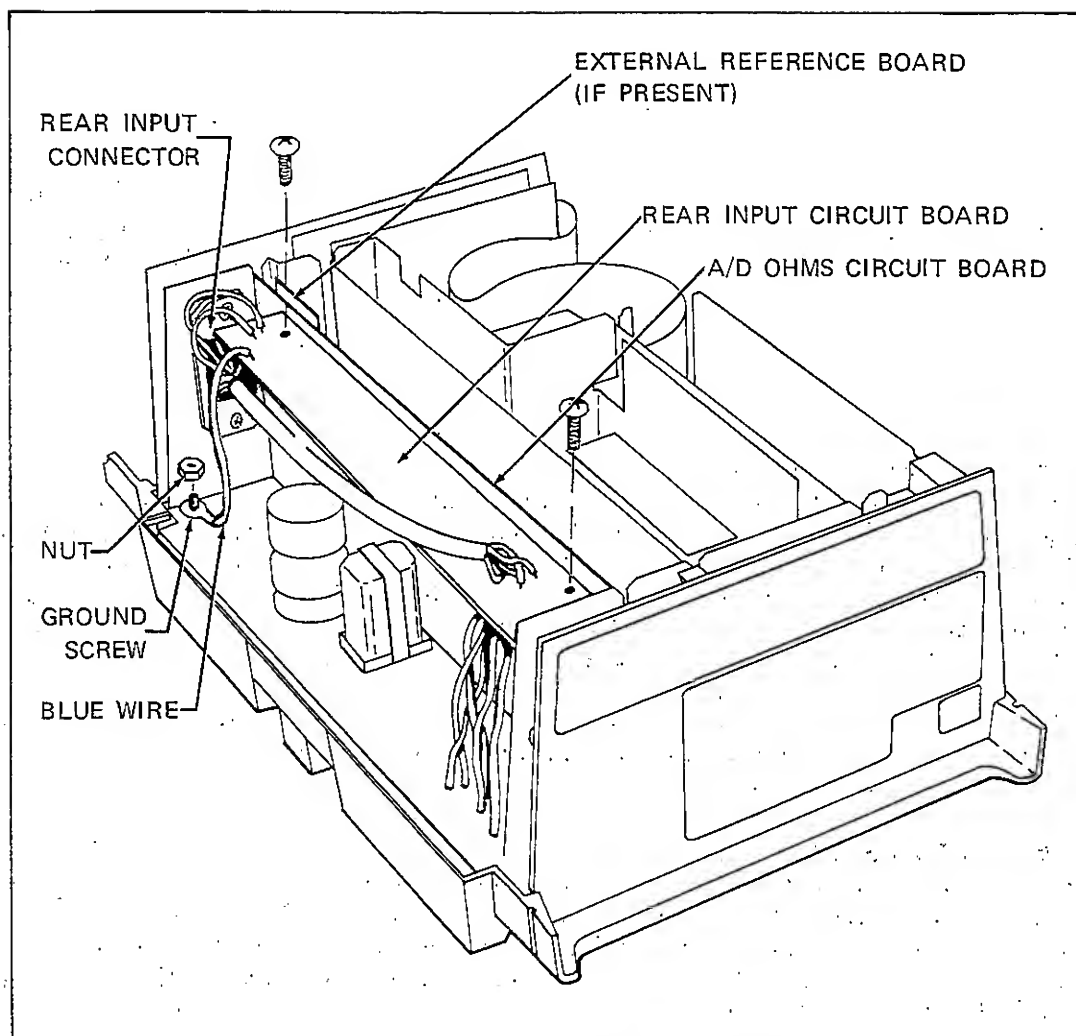
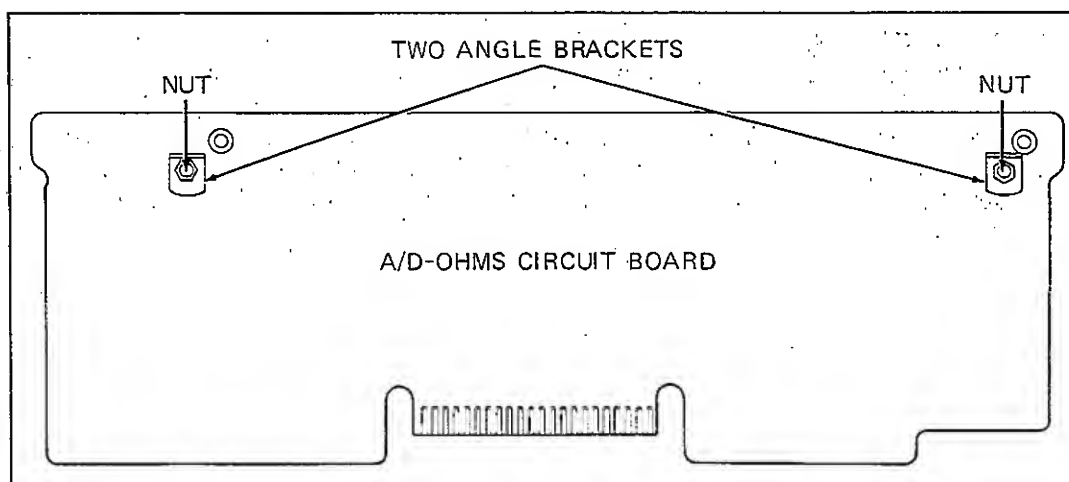
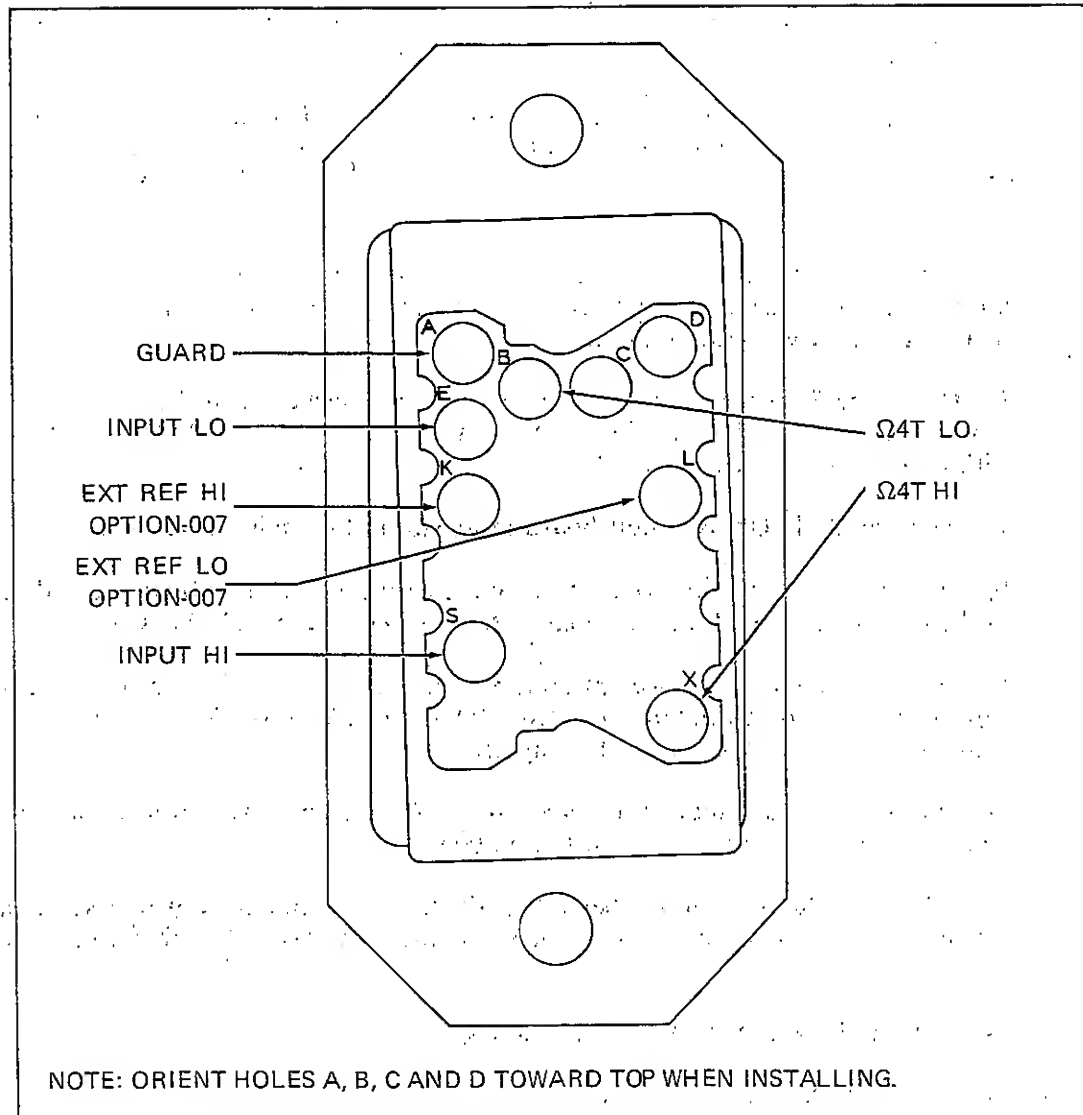

Figure 006-1. Installation of Rear Input Option
Figure 006-2. Installing Angle Brackets for Rear Input Option
Figure 006-3. Rear Input Connector, Viewed from Plug End
4. Determine whether or not the External Reference (option -007) is installed. The External Reference is easily identified by a dual banana jack mounted in the rear panel where the rear input connector will go (as in Figure 006-1).
1. Remove the A/D-Ohms circuit board (see Figure 006-1) from the mainframe by lifting the board out.
4. Remove the External Reference circuit board (identified in Figure 006-1) from the A/D-Ohms circuit board by first unfastening the single screw holding it in place. This will allow the left-hand angle bracket of Figure 006-2 to be installed.
6. Fasten the two small angle brackets to the A/D-Ohms board (already removed), using the two screws and nuts as shown in Figure 006-2. (Note each angle bracket has one threaded hole. Mount the non-threaded hole against the A/D-Ohms circuit board.)
8. Orient the Rear Input connector with the holes marked A, B, C, and D at the top, as shown in the close-up, Figure 006-3. Fasten this connector to the rear panel with two screws, as in Figure 006-1.
12. Fasten the Rear Input circuit board to the A/D-Ohms board by installing two screws in the angle brackets, as in Figure 006-1.
13. Lead the Blue ground wire behind the shielded wire, and to the ground screw in the corner of the guard, as in Figure 006-1. Using a nut, fasten the Blue wire to the ground screw.
006-9. Operation of the Rear Input is identical to that of the front panel inputs, except for the type of connector used. The pin designations are given in Figure 006-3. The plug which mates with the rear-panel-mounted Rear Input connector can be ordered using part number 541797, Hardware Connector Kit, from John Fluke Mfg. Co., Inc. This kit includes a cable connector (part # 369231), and the necessary solder contacts (part # 369298).